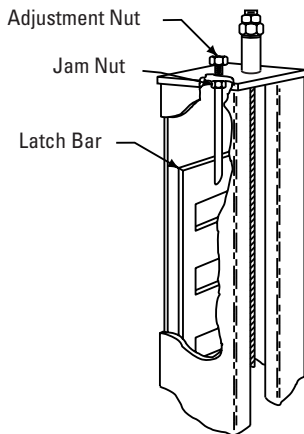
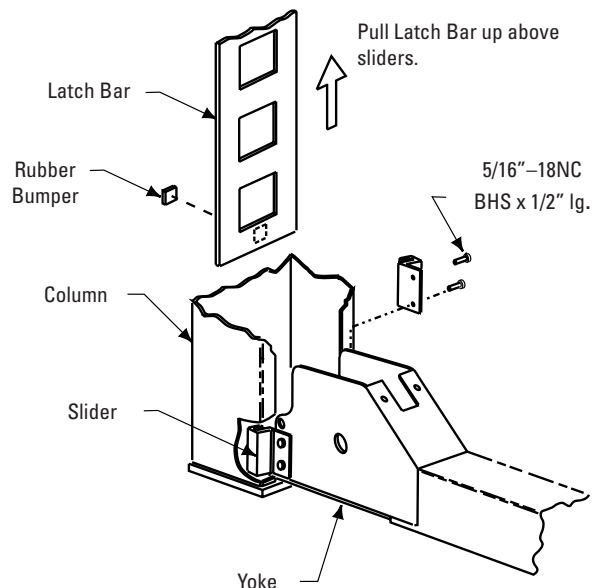

Fig. 5a
Fig. 7
- Thread the jam nut down the threaded stud as far as possible. Stick rubber bumper to bottom of latch bar, see Fig. 7. Place the latch bar in the back of the column, Fig. 5a. The latch bar is offset from the center line of the threaded stud (inset Fig. 6). The latch bar should be oriented toward the back of the column from center line of the threaded stud.
- Start yoke end into the column, allowing slider bolt holes to stay exposed, Fig. 7. Apply thread locking compound to screw threads then bolt sliders onto each side of the yoke end with 5/16"-18NC screws provided. When both sliders are attached, push column toward yoke end until sliders touch latch bar.